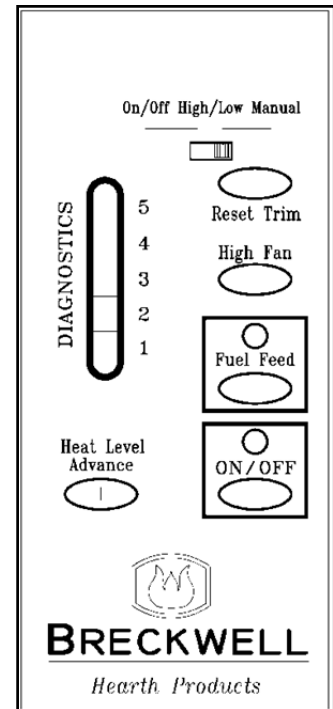

FIGURE 19
PANEL CONTROLS (See Figure 19)
- The green light located above the On/Off button (in the On/Off box) will flash during the ignition start-up period. (See figure 19)
- While the stove’s auger system is feeding pellets the green light (in the “Fuel Feed” box) will be illuminated. (See figure 19)